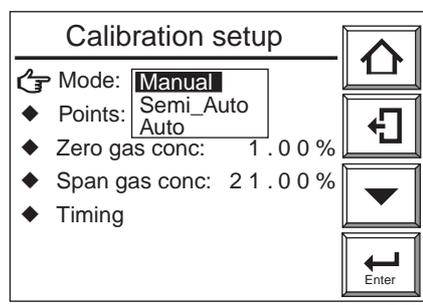

Figure 9.4 Calibration Setup
- (1) Select the Setup key from the basic panel display to display the Execution/Setup display. Then select Maintenance from the Execution/Setup display.
- (2) Select Calibration setup from the Maintenance display. Then select Mode from the Calibration setup display (see Figure 9.4).